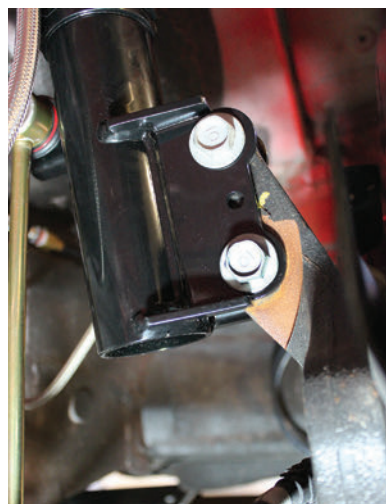

fig. D.11
3. Reinstall the lower strut mount nuts and bolts. Torque to 157-177Nm (116-130 lb.-ft.) (Fig. D.11).